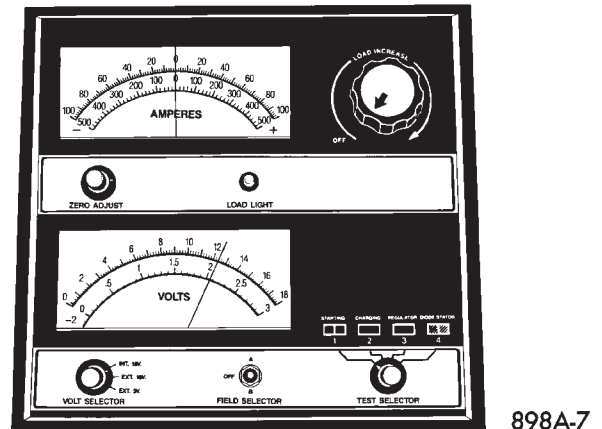
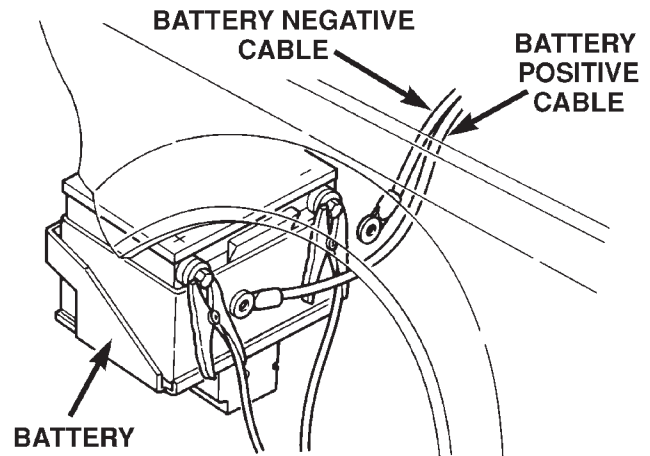

Fig. 6 Testing Open Circuit Voltage
Fig. 7 Volt-Ammeter Load Tester Connections
(1) Remove both battery cables, negative cable first. Connect a Volt/Ammeter/Load tester (Fig. 6) to the battery posts (Fig. 7).
(2) Allow the battery to stabilize for 2 minutes, and then verify the open circuit voltage. Refer to Battery Open Circuit Voltage table.
(3) This voltage reading will approximate the state of charge of the battery. It will not reveal battery cranking capacity.